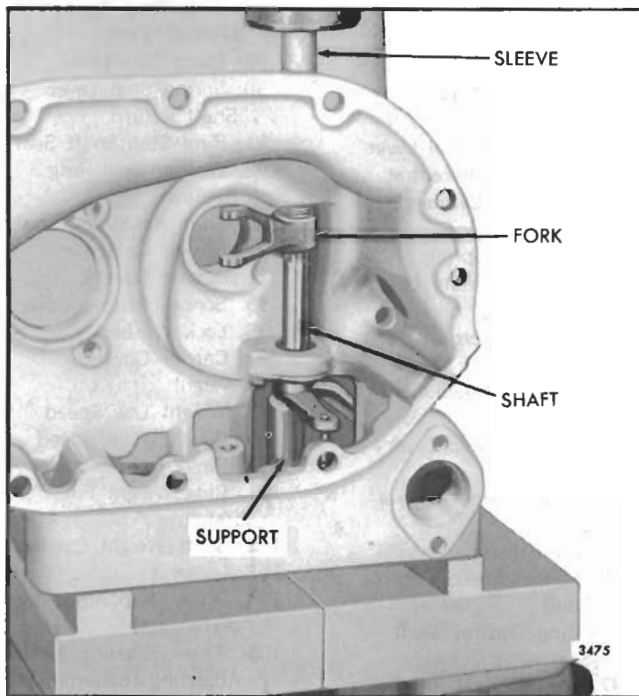

Fig. 16 - Installing Governor Operating Shaft Fork on Shaft
- f. Support the governor housing and operating shaft assembly on the bed of an arbor press with the upper end of the operating shaft resting on a steel support as shown in Fig. 16. Place a 7/16" inside diameter sleeve over the end of the shaft and against the fork, then press the fork right against the shaft spacer on the shaft.
- h. Support the governor housing and operating shaft assembly on the bed of an arbor press with the upper end of the operating shaft resting on a steel support as shown in Fig. 16. Place a 7/16" inside diameter sleeve on the inner race of the bearing and under the ram of the press, then press the